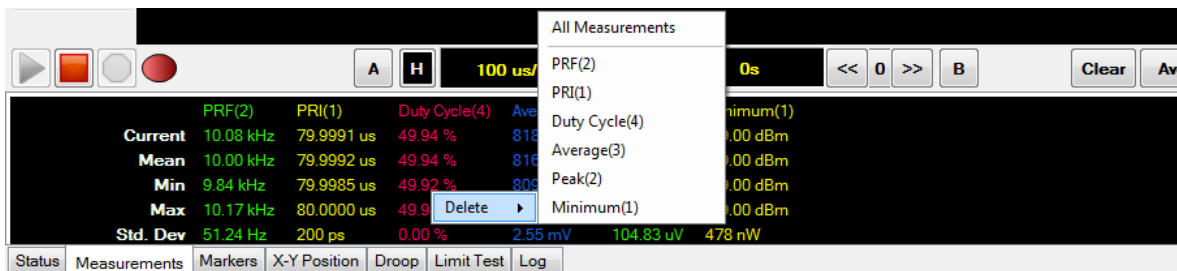

Figure 2-105 To delete measurement results on the multi-purpose pane
- 2 To remove all measurement functions results from the Measurement view, select the Measurement view area to display the delete measurement menu and select **Delete > All Measurements**. To remove only specific measurement function results, select **Delete > [measurement function]** as shown in Figure 2-105.